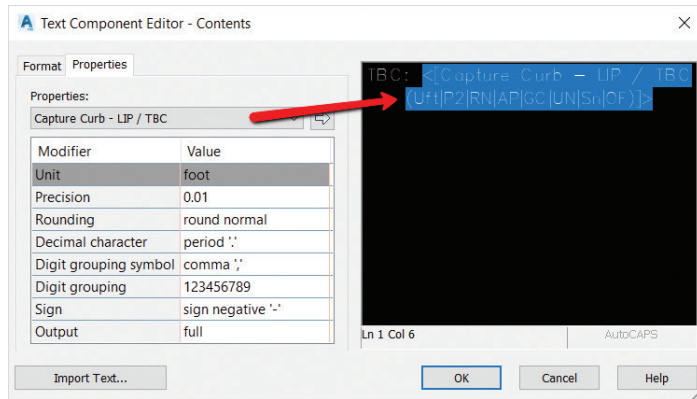

Figure 4
11. In the Text Component Editor Properties, you will now see your expression; add that to the new component (Figure 4).